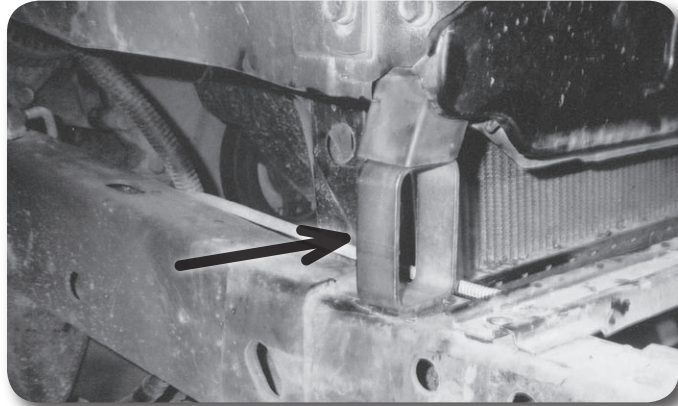

Figure 1
18. Install the two metal body spacers under the rubber pads on both sides of the grill. Weld the supports to the frame (Fig. 1).